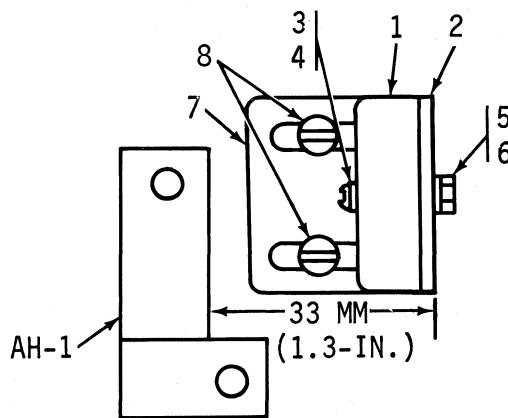

Figure 5-9. LEFT REED SWITCH (AG-1) STATIC-ADJUSTMENT
5.2.7.3 AdjustmentsA. Left Reed Switch - Static Adjustment (See Fig. 5-9)